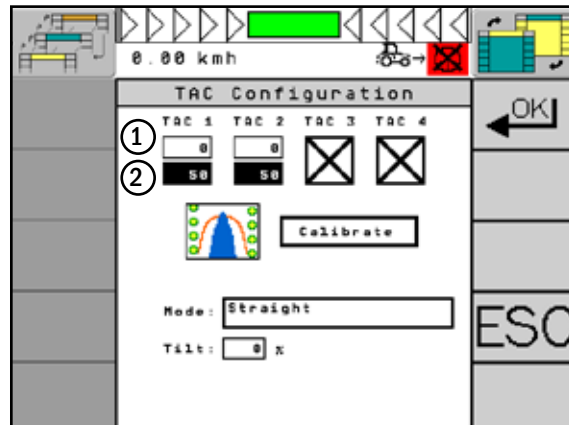

Fig. 219: Display of sensor values
With “PSR TAC” operation mode selected, briefly press the “Main menu” key (see Fig. 219) to get to the main menu of the “TAC Configuration” mode.
- The first line shows the current value of the sensors (see Fig. 219 – 1).
- The second line shows the saved value (see Fig. 219 – 2).